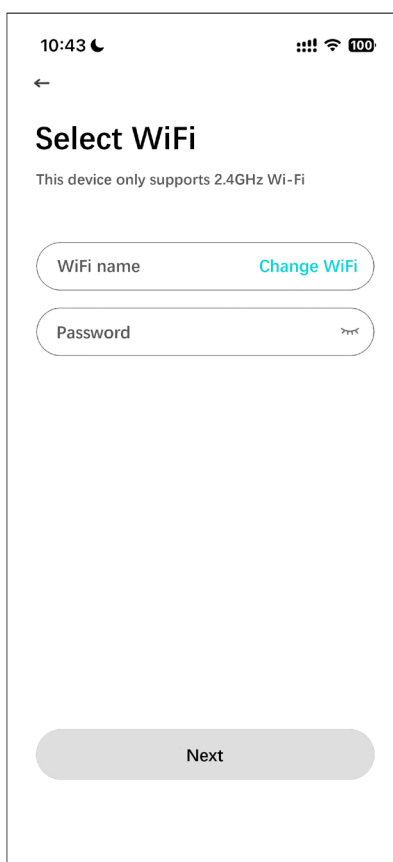

Figure 7
5.2.7 WiFi Configuration (see Figure 7)